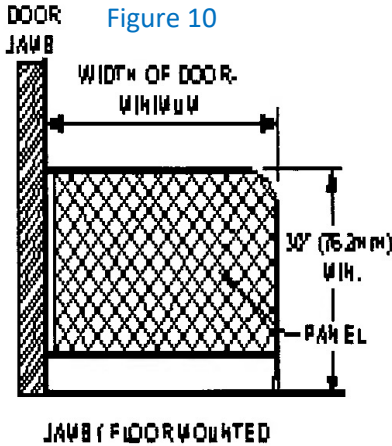

Figure 10
4. **Activating Switch.** (Knowing Act) Doors equipped with a manual activating switch shall hold fully open for a minimum of 5 seconds before closing. Doors equipped with a manual activating switch shall have a decal as follows: "Automatic Door. Activate Switch to Operate." The decal should be visible from both sides of the door or the side with the knowing act switch if there is only one. (See Figure 10).